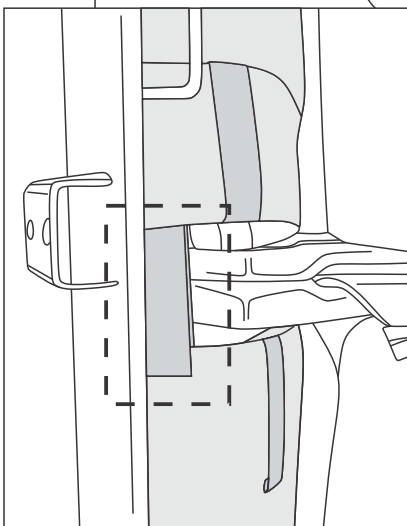

Fig. 6.5
6.5. Attach tapes in the middle of the backrest (Fig. 6.5).